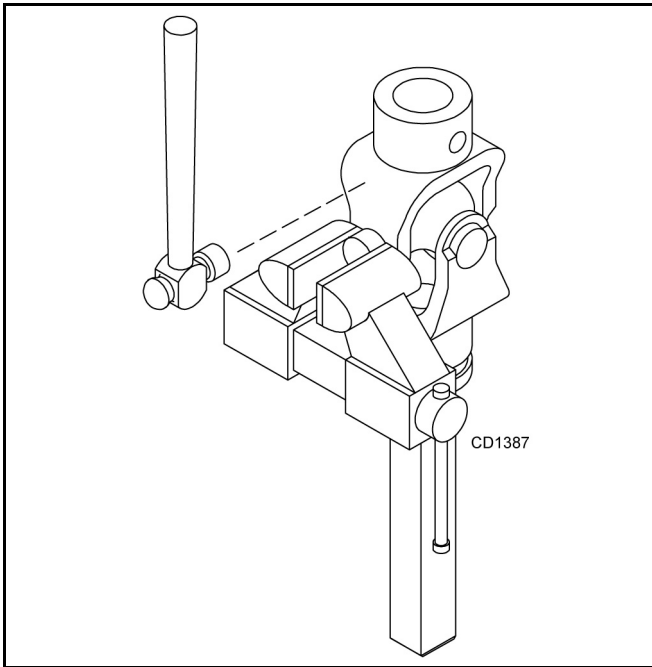

Figure 30.
4. Place universal cross in vise as shown in Figure 30 and tap on yoke to remove cup. Repeat step 3 for final removal. Drive remaining cup out with a drift and hammer.